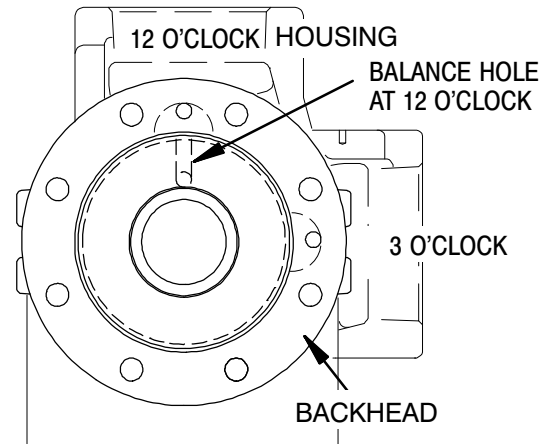

Figure E-5. Housing/Backhead Alignment
Position the balance hole as shown in Figure E-5, and secure the backhead (06A) to the housing (04A) with the capscrews (B).